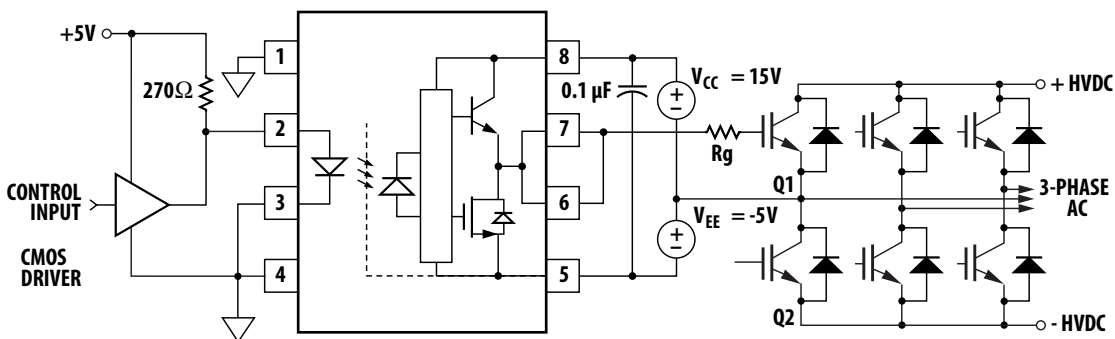

Figure 26. ACPL-312T typical application circuit with negative IGBT gate drive.
Step 1: Calculate R_g Minimum from the I_{OL} Peak Specification. The IGBT and R_g in Figure 26 can be analyzed as a simple RC circuit with a voltage supplied by the HCPL-3120.
For the circuit in Figure 26 with I_F (worst case) = 16 mA, R_G = 8 Ω , Max Duty Cycle = 80%, Q_G = 500 nC, f = 20 kHz and $T_A \text{ max} = 85^\circ\text{C}$: